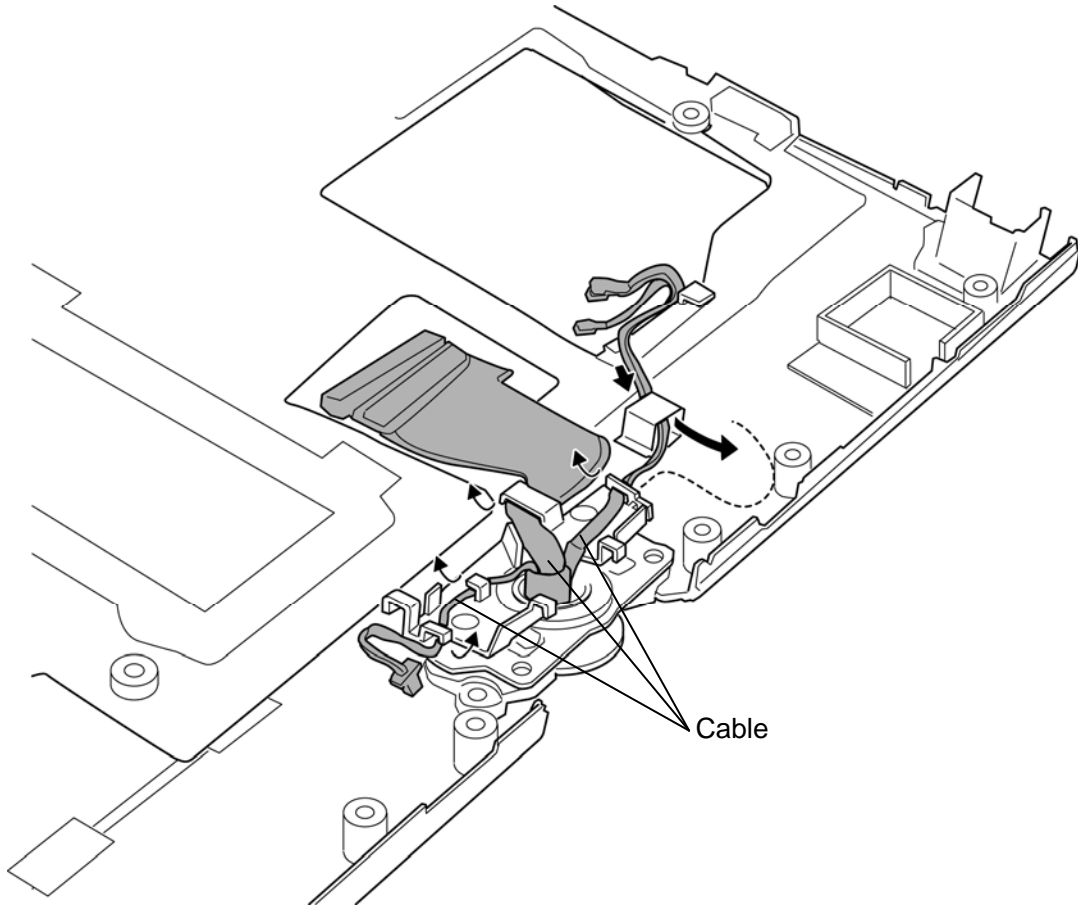

Figure 4-48 Removing the hinge assembly (1)
The following describes the procedure for removing the hinge assembly. (See Figure 4-48 and 4-49.)
The following describes the procedure for installing the hinge assembly. (See Figure 4-48 and 4-49.)
3. Arrange the **cables** carefully as shown in the Figure 4-48 to the guides of the cable holder.